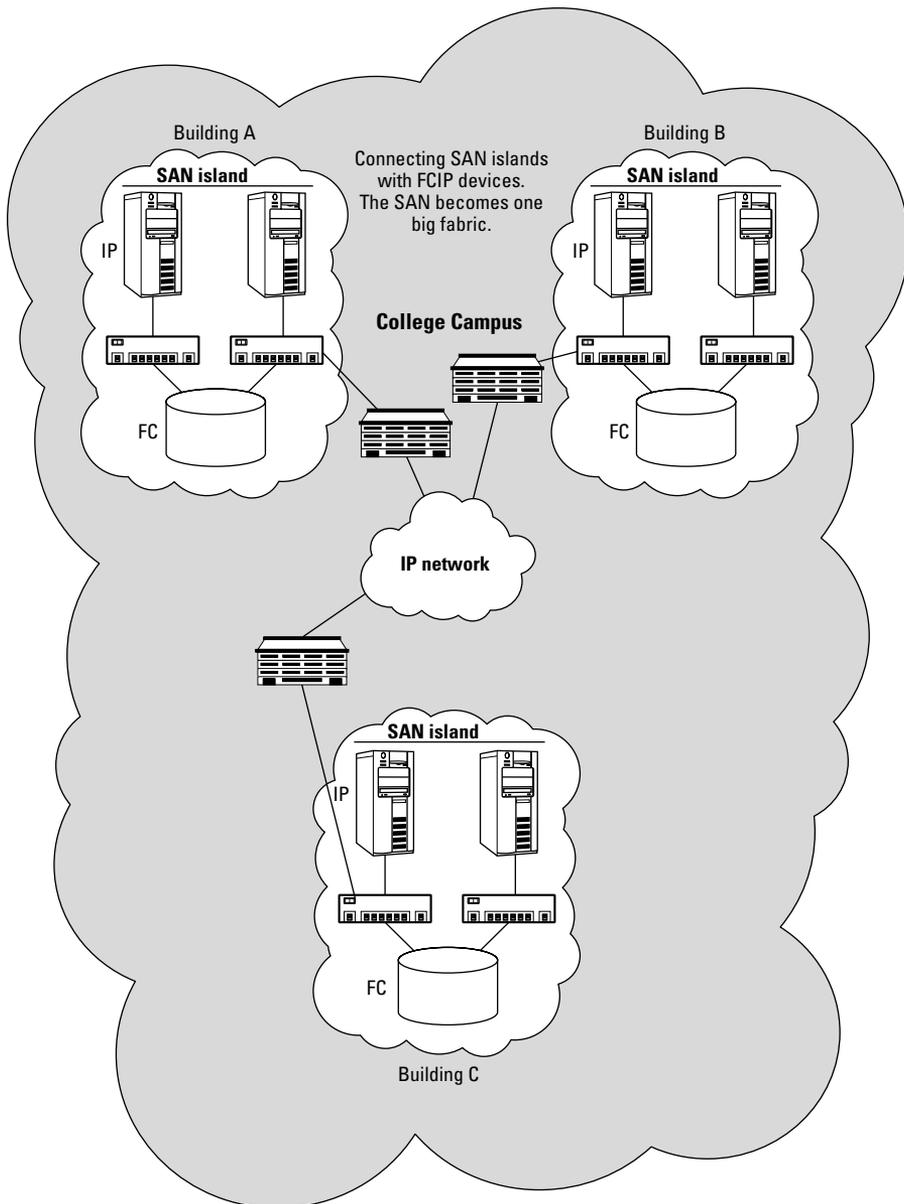
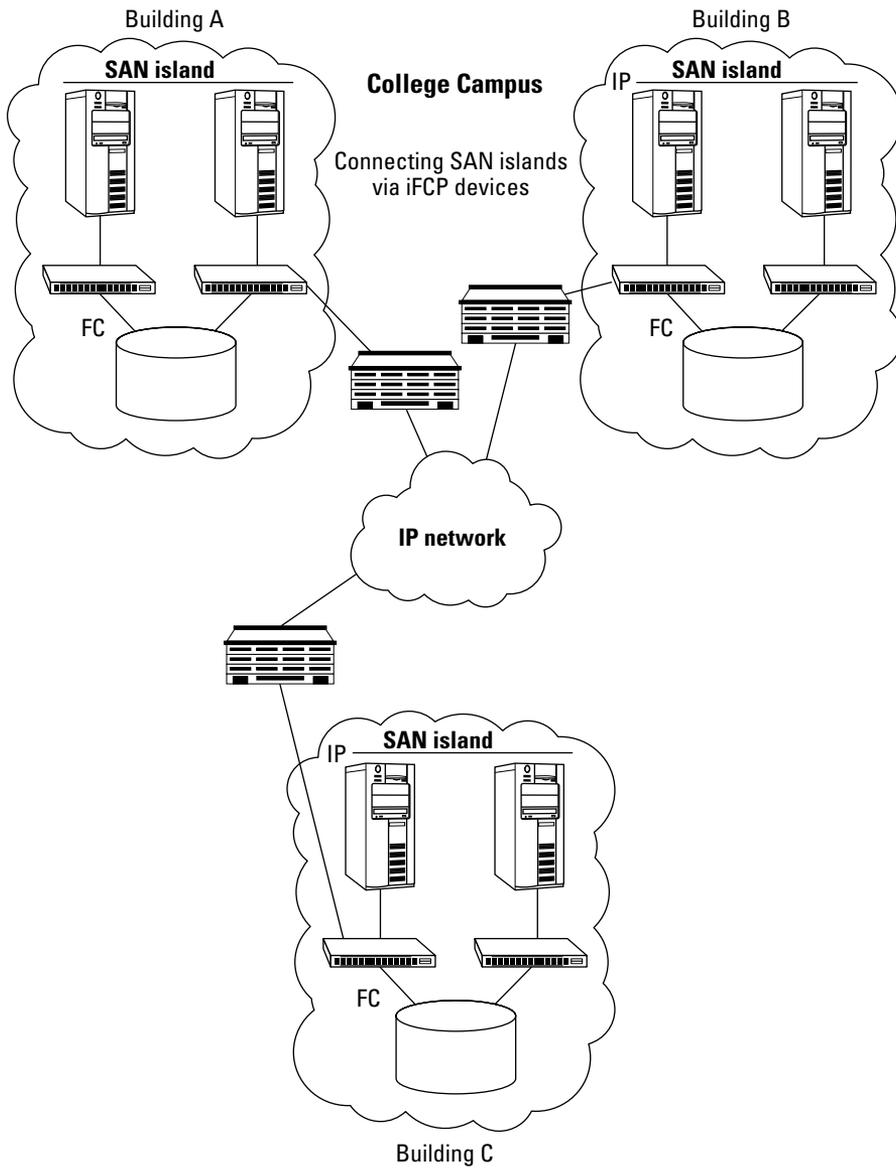

Figure 8-4:
Figure 8-5:
The FCIP protocol connects two Fibre Channel SAN fabrics into one big fabric, using IP as the network connection between the physical locations. A device called an *FC extender* (Fibre Channel extender) is used at the edge of both fabrics to connect them. The extender uses the FCIP protocol to create a communication link between the fabrics by creating a logical tunnel within the IP protocol. The extenders are linked by the tunnel, and the tunnel transparently passes all Fibre Channel traffic between locations (see Figure 8-4).
All local Fibre Channel traffic stays inside each connected SAN island. Only traffic destined for devices in other locations is passed across the link. iFCP lets you connect SAN islands but still keep the islands separate unto themselves, as you can see in Figure 8-5.
The FCIP protocol shown in Figure 8-4 shows the SAN extended across all locations, which is why a big cloud covers all the little clouds that represent the original SAN islands. In Figure 8-5, the big cloud is gone because, although the SANs are connected and devices in each location can communicate, the actual fabrics remain separate (no cloud). The iFCP protocol doesn't use E_Port connectivity between the switches in the fabrics, so the fabrics stay separate. (See Chapter 2 for more on E_Ports.) The major difference between iFCP and FCIP connections is that FCIP expands a fabric to make the connection, whereas iFCP keeps the fabrics separate.
- ✓ **FCIP-based Fibre Channel extenders:** You can use FCIP-based extenders (such as the CNT Edge device) to extend a single SAN fabric over normal TCP/IP network connections. FCIP allows almost unlimited distances between switches in the same fabric. You can connect SAN islands using a private network connection or a leased line from a Telco. (Refer to Figure 8-5.)